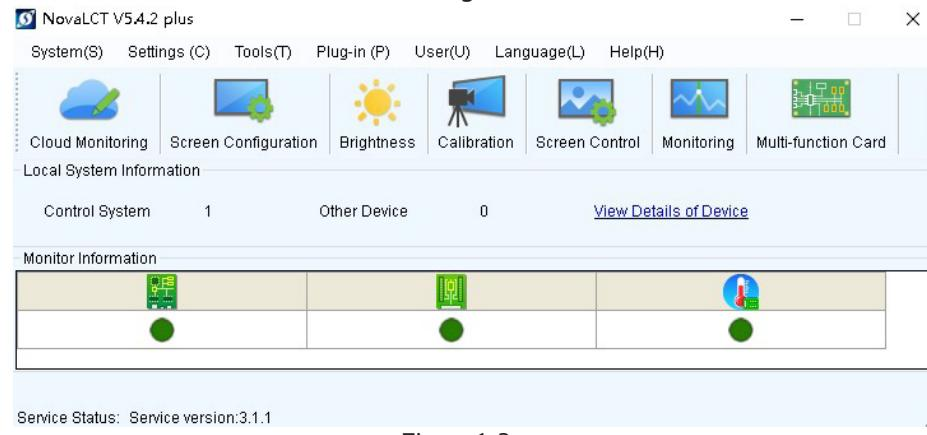

Figure 1-3
3. Enter the password admin or 666888 in the main menu. See Figure 1-3.